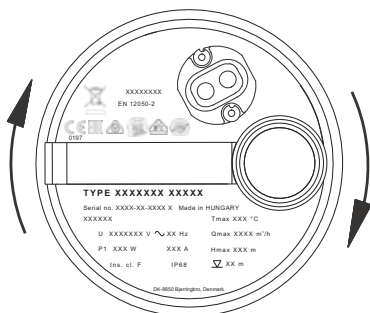

Fig. 8 Direction of rotation
3. Observe the pump when started. If the pump gives a slight clockwise jerk, see fig. 8, the direction of rotation of the motor is correct. If the jerk is counter-clockwise, interchange two phases in the mains connection.